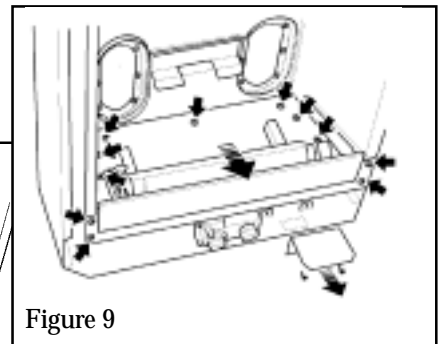

Figure 9
1. Detach the battery shield by removing two screws. See figure 9.
2. Detach the burner module by removing 11 screws. See figure 9.